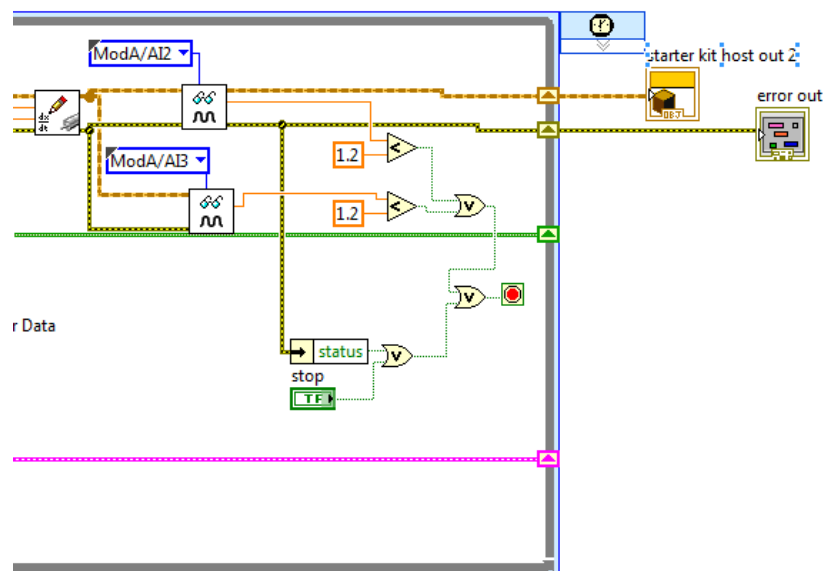

Figure 3.7
Step 9: Now that we can read the distance values (this value is actually the raw voltage), we can use the graph in the datasheet for the infrared sensor to see what voltage corresponds to what distance. Also, testing the sensor and observing what the voltage reading needs to stay above is also good. For our implementation of this code we found that as long as the voltage stays above 1.2V then the robot has not detected an edge (this voltage value will vary based on the distance between the sensor and the ground). Any lower and that means that there has been an increase in the distance seen. Thus, to analyze both sides we must compare this value of 1.2V to what is seen by the sensor. So place two less than symbols on the block diagram and wire both readings to one of the less than symbols. For the other input of each less than symbol, create a constant input and set it to 1.2V. An OR symbol must then be placed on the block diagram. Wiring the outputs of both less than symbols to the OR symbol to complete our comparison to check whether one of the sensors has detected a greater distance. Lastly, place another OR symbol and connect the output of the OR symbol for the distance readings and the other OR symbol with the inputs coming from the constant and status. Wire the output of this OR symbol to the stop condition for the loop. When you have finished this step your VI should look like figure 3.7.